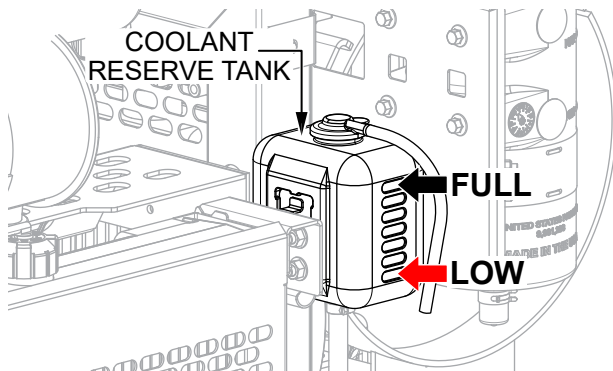

Figure 17. Coolant Reserve Tank
Verify that the coolant level in the **coolant reserve tank** (Figure 17) is between the **LOW** and **FULL** markings on the tank.
2. Visually inspect the level of hydraulic oil in the **hydraulic oil reservoir** (Figure 17). Hydraulic oil should be visible between the **MIN** and **MAX** lines on the reservoir.